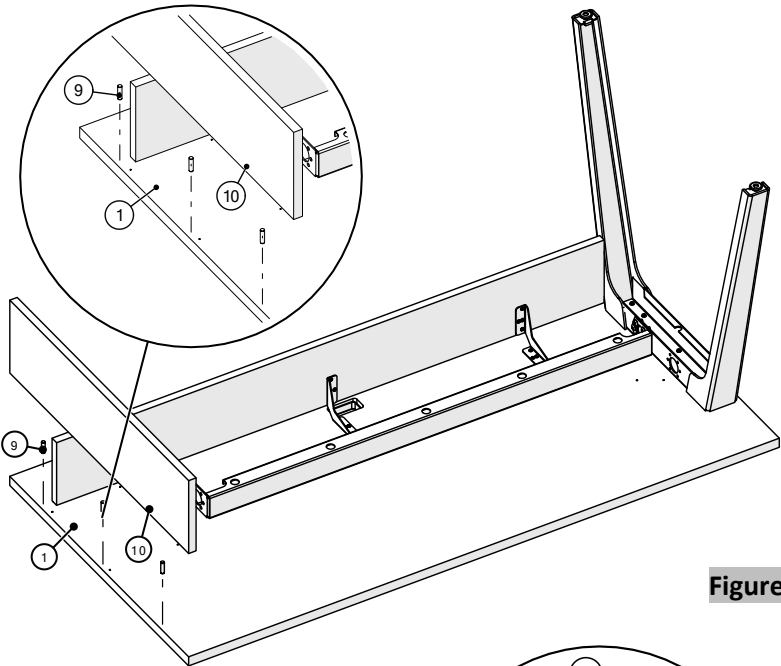

Figure 7
- Insert the wooden dowels into the holes of worksurface; connect the short gable to worksurface and press the boards together by inserting the wooden dowels into the holes of the short gable, (Figure 7).